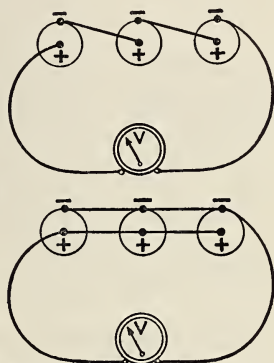

Fig. 230. The upper drawing shows cells in series and the lower drawing cells in parallel.
Combination of cells. When cells are combined, they may be arranged in either of two ways: (1) in series or (2) in parallel. When cells are arranged in series, they are arranged as shown in the upper drawing in Figure 230, with the negative terminal of one cell connected with the positive terminal of the next cell, and so on. When cells are arranged in parallel, they are arranged as shown in the lower drawing in Figure 230, with all the positive terminals connected and all the negative terminals connected. To see how these arrangements